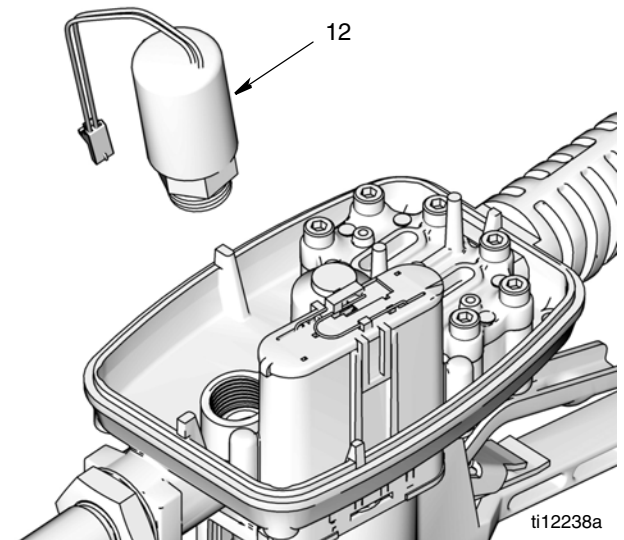

FIG. 37
9. Unscrew solenoid (12) and remove from meter housing (FIG. 37). If necessary, a pliers can be used to loosen solenoid.